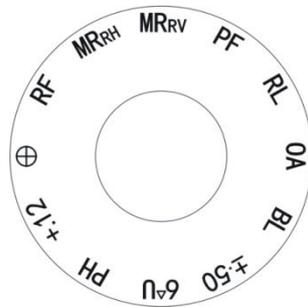
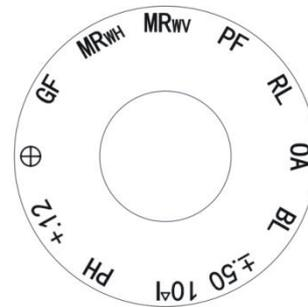

Fig.15
Fig.16
Turn auxiliary lens knob ②), the required symbol is to be set at 12 o'clock position. Then Corresponding referenced lens will appear in the examination aperture ⑬ (Fig.15 and Fig.16).